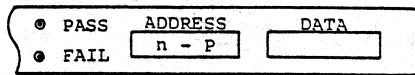

Fig. 4-5
- (8) The PG-1000 panel display shows random data for several seconds, then gives the indication shown in Figure 4.5